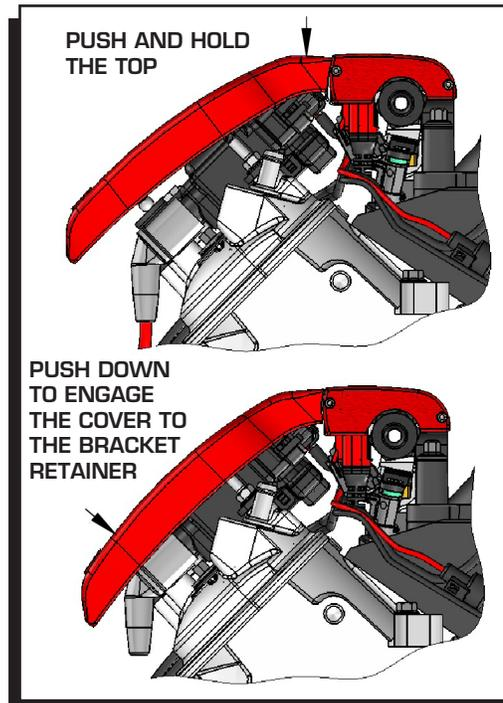

Figure 7 Installing the Coil Covers.
4. Position the cover in place over the coils with the top aligning against the fuel rail. Press the cover down from the top, then press from the bottom to secure the assembly to the cover brackets (Figure 7).